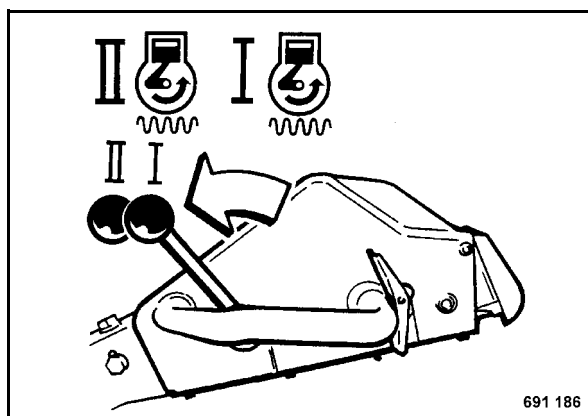

Fig. 30
- Set the throttle lever (Fig. 30) to one of the two possible vibration positions.